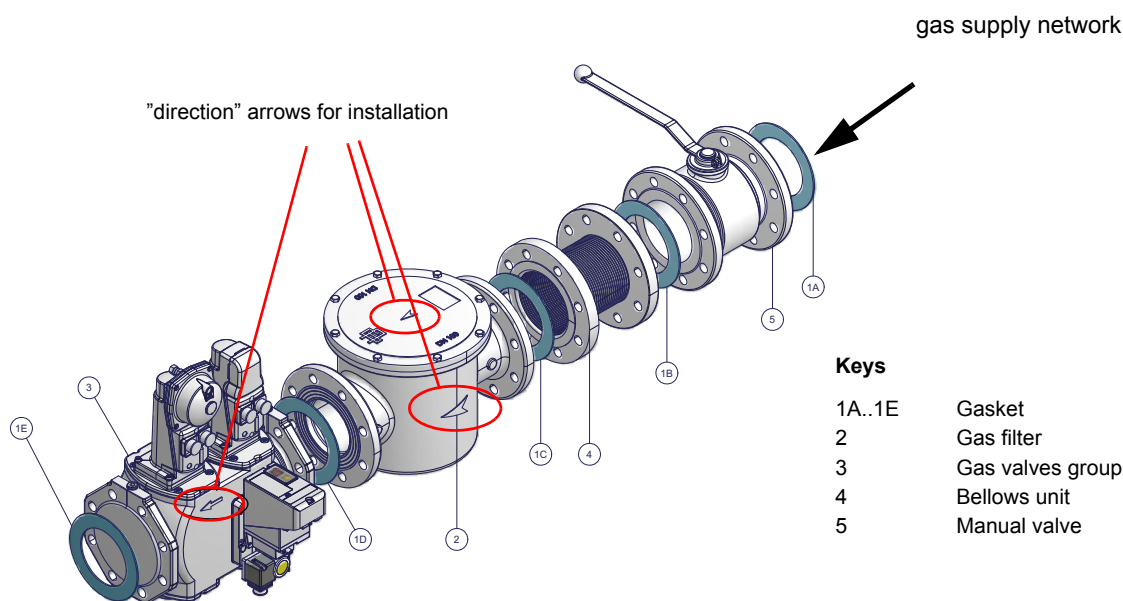

Fig. 6 - Example of gas train
1-b) in case of flanged joints: place a gasket (no. 1A..1E - Fig. 6) between the elements
**ATTENTION: once the gas train is mounted according to the diagram on Fig. 6, the gas proving test must be performed, according to the procedure set by the laws in force.**